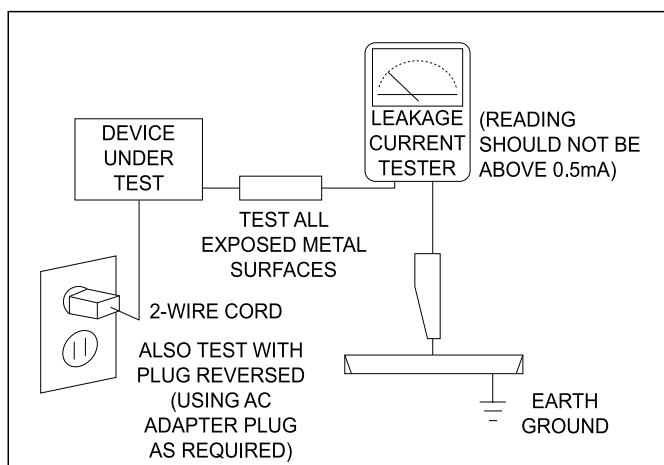

Figure 1.1 AC Leakage Test
- 4) Leakage Current Hot Check Figure 1.1 AC Leakage Test :